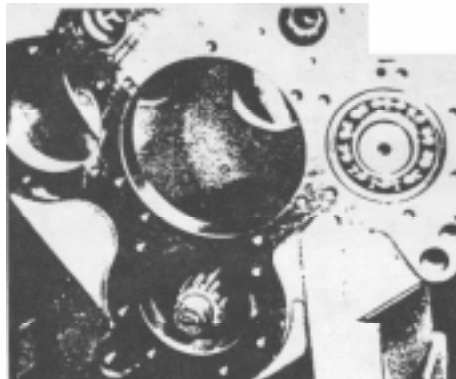
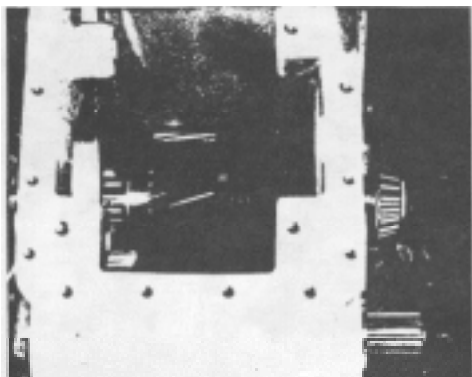

Fig. 14
Fig. 15
6. Insert the rear output shaft (Item 49 with Items 31, 46, and 39) through the proper hole in the front of the case and align the shaft splines with the gear splines (See Fig. 14). Use a brass or aluminum rod to protect the threaded shaft end and tap the shaft into the gear until the retaining ring (See Fig. 15) seats in the chamfer of the gear.